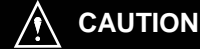

**Fig. 12
13. Use the brushes to clean all holes and ports in the parts (Fig. 12).